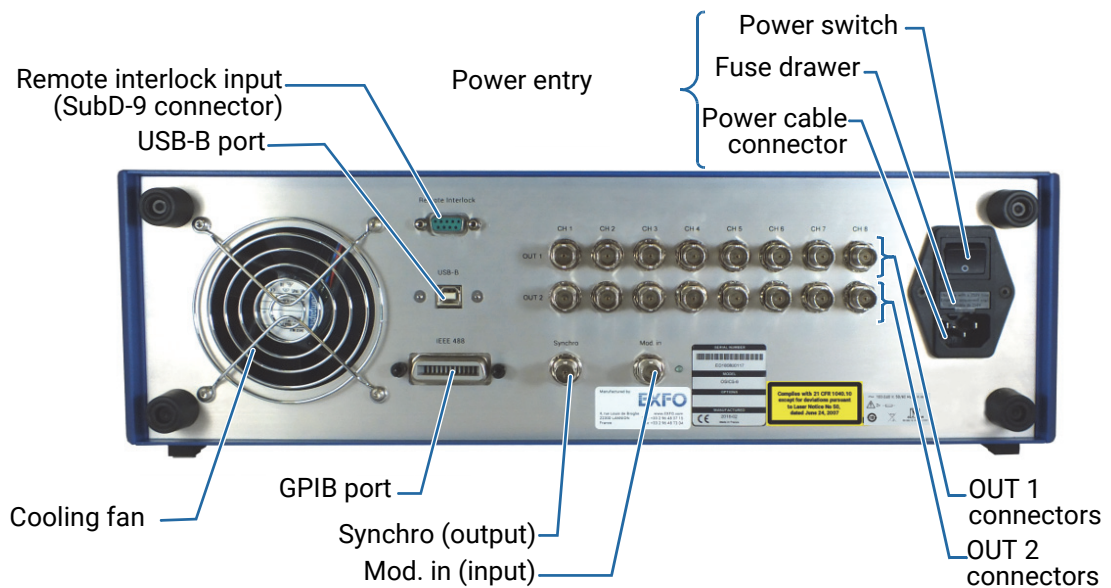

Figure 2: Mainframe – Rear Panel
5. On the rear panel (see *Figure 2, p. 18*), make sure the power switch is set to **O**.